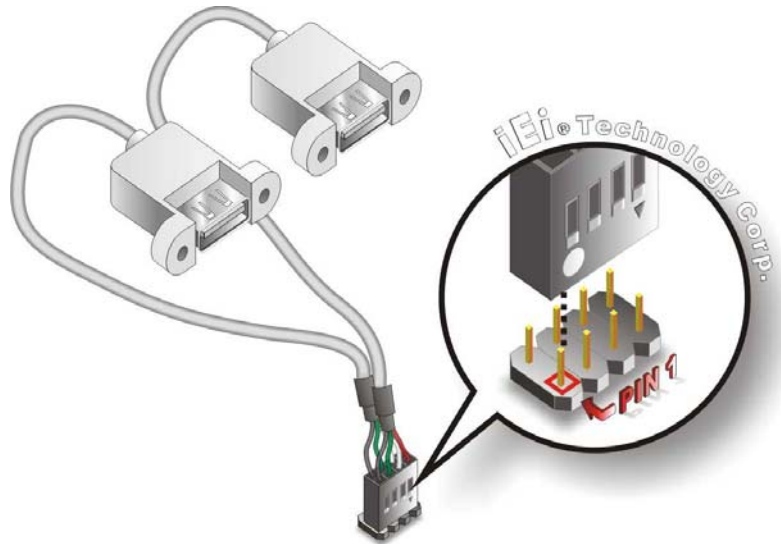

Figure 4-9: Dual USB Cable Connection
Step 3: Insert the cable connectors. Once the cable connectors are properly aligned with the USB connectors on the WAFER-OT-Z650/Z670, connect the cable connectors to the on-board connectors. See **Figure 4-9**.